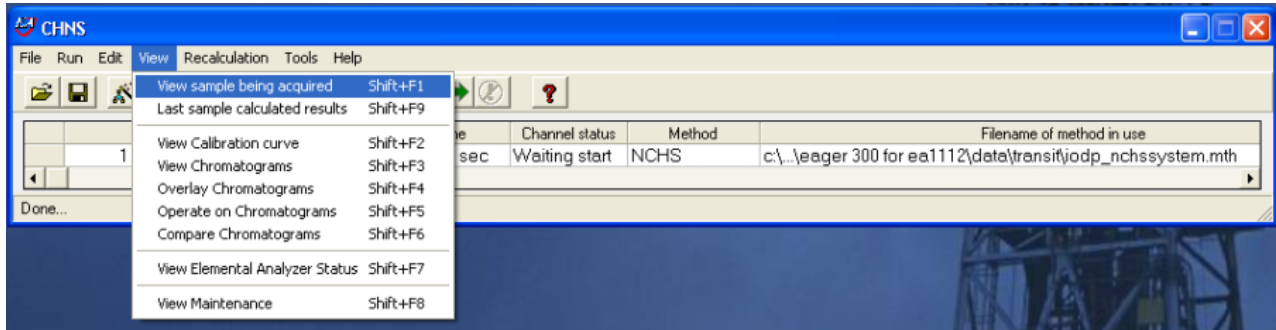

Figure 8. View Menu.
2. Select a group of samples to calculate the standard deviation for by indicating a group number (1) in the Group column of the *Summarize results* table. For example, in *Figure 8 Figure 9* the 6 sulfanilamide standards are grouped (1) for standard deviation analysis.